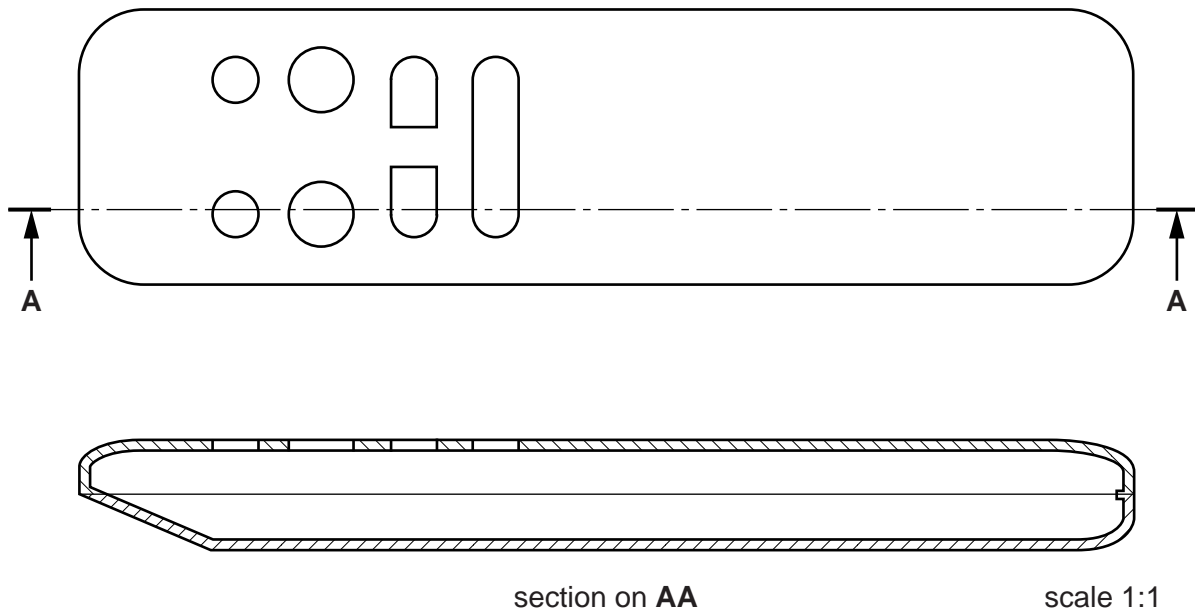

Fig. 4
- 9 Fig. 4 shows part of a drawing for the case of a computer-game controller.